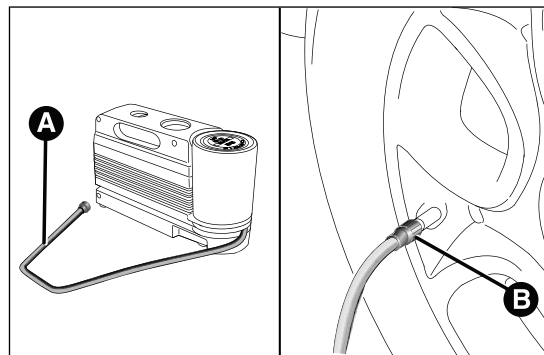

fig. 117
- ☐ **Pull up the handbrake.** Unscrew the tyre valve cap, take out the filler hose A fig. 117 and tighten the ring nut B on the tyre valve;